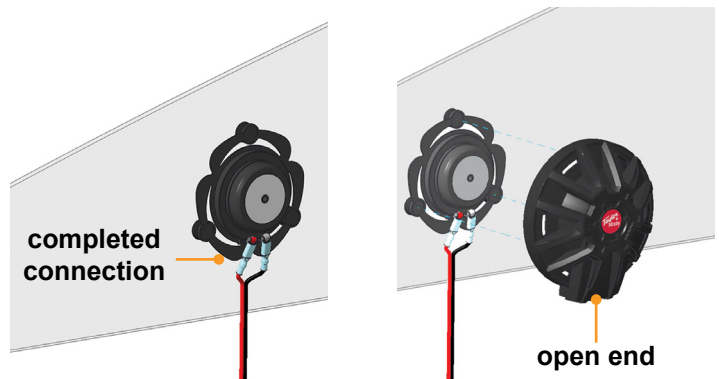

Fig.6
10. After the speaker wires have been connected (Fig.6), remove the protective film from the adhesive on the Exciter cover. Set cover into position as shown in figure 6 with the open end of the cover at the bottom.